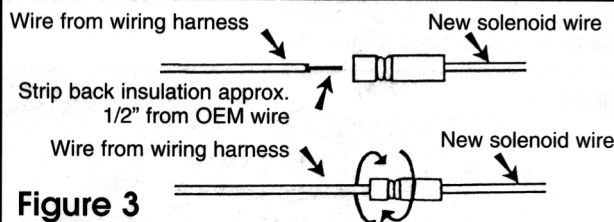

Figure 3
4. Strip back lead wires cut from the old solenoid and original solenoid harness approximately 1/2" and twist braided wire to form a tight strand. Loosen the Posi-Lock™ Connectors. Insert the bare wire into the connector until it bottoms out. Tighten the connector. Repeat this procedure for all of the connections (Figure 3).